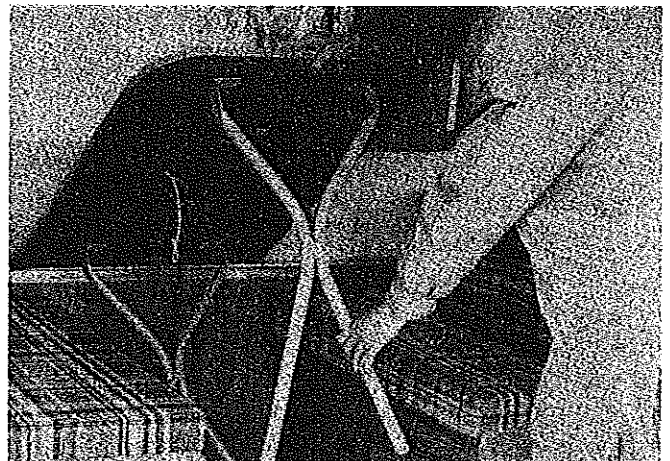

FIGURE 42
48. Extend the table legs completely so that both leg supports lock into position. Set table upright and check to insure it is stable. See Figure 42.
11. Secure the dinette table by locating it on the rests between the bench seats. See Figure 42.